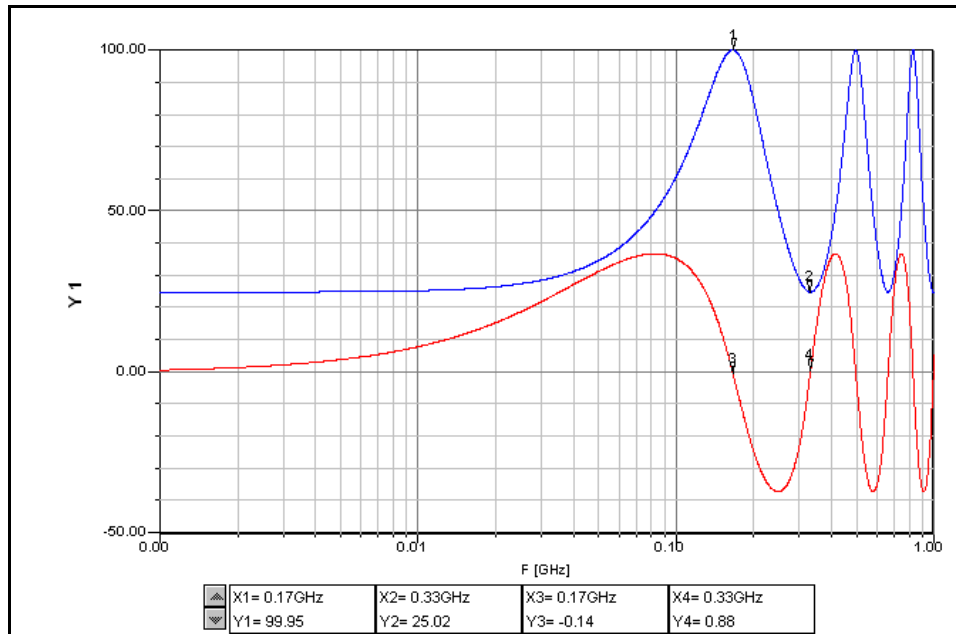

Figure 17. Z_{IN} (d) where $d = 12$ inches
5. We can also mark points on our displayed graphs. Left click on the magnitude graph and it should turn yellow. Right click and select **Data Marker**. Moving the cursor with the mouse or the arrow keys, move the marker as close as you can to .1667 GHz. A left click will mark the data point with the x- and y-axis values. Your result should look like Fig. 17. Mark the other points indicated in Fig. 17.